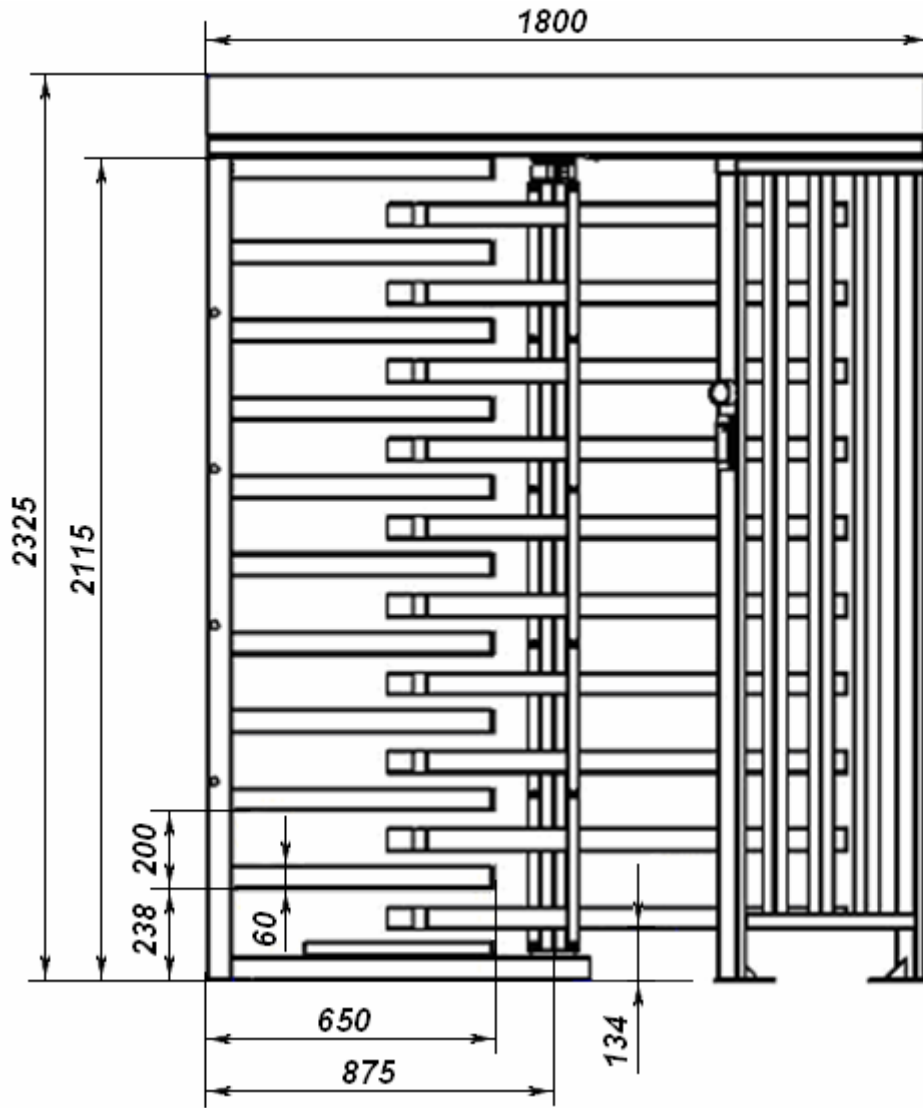
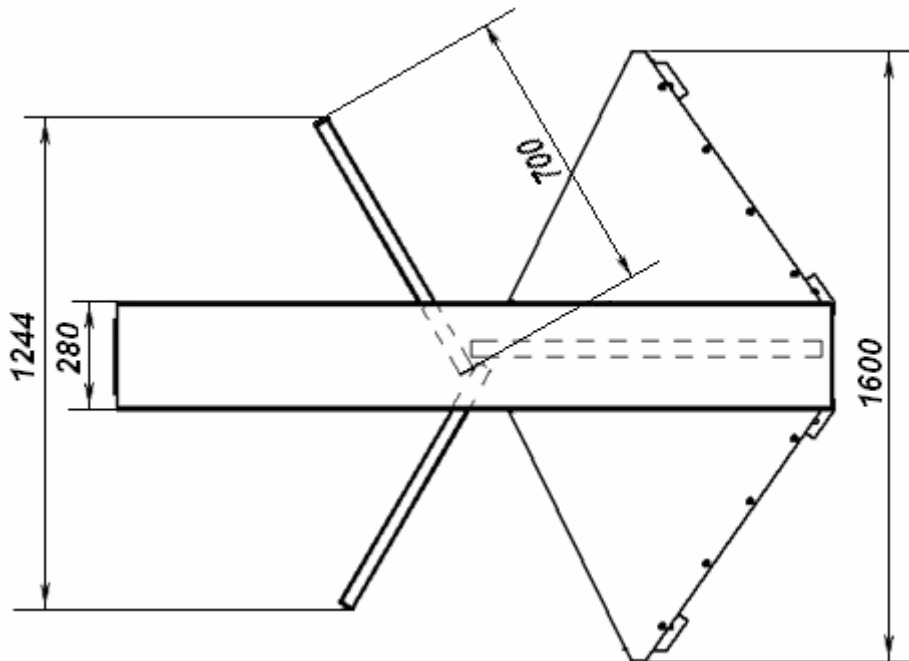
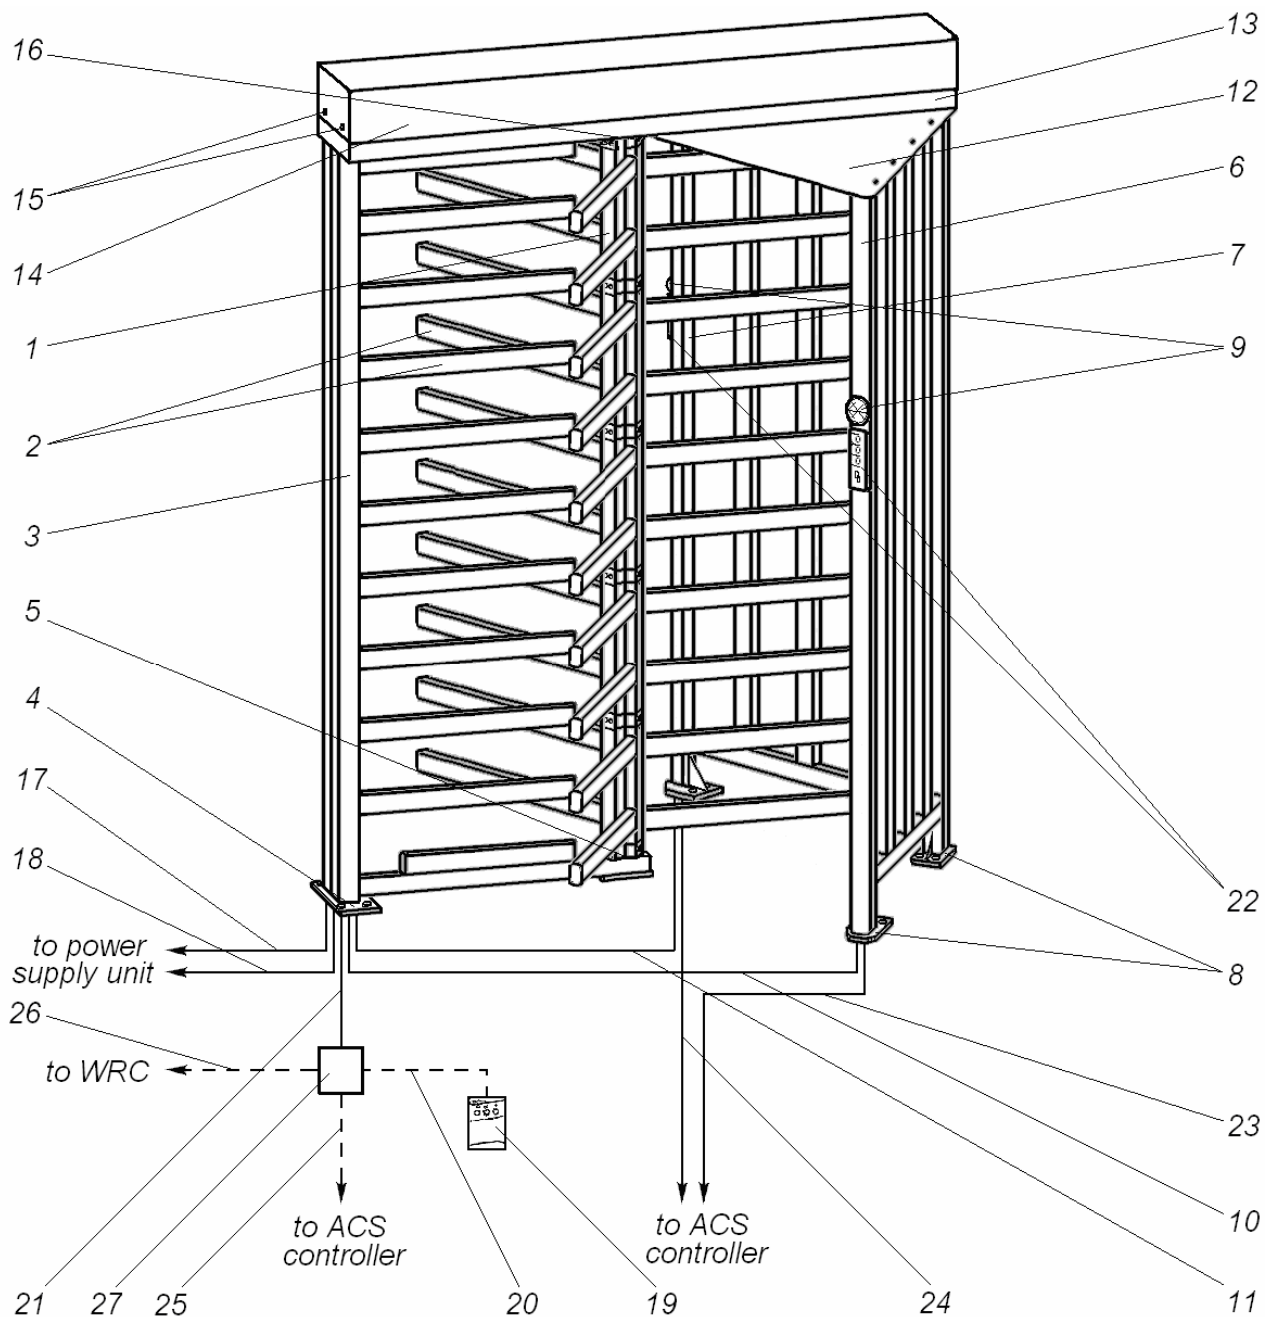
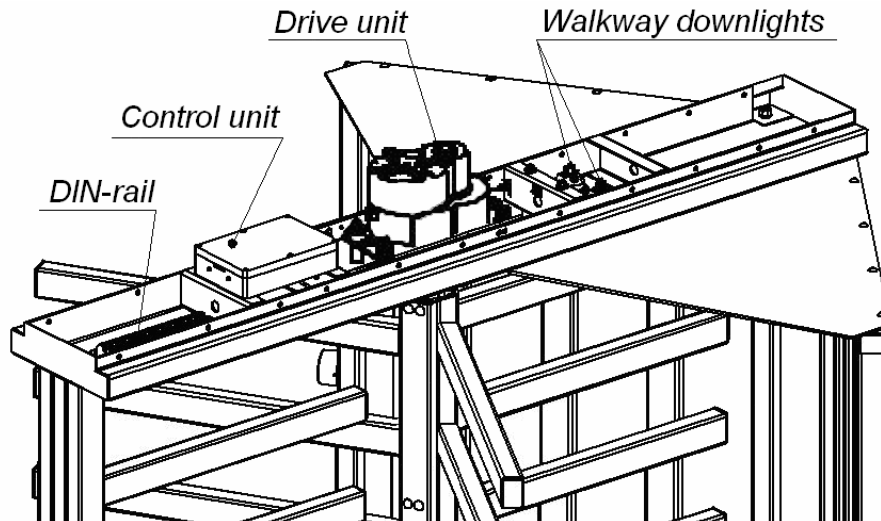

Fig. 1 Overall dimensions (left-side view)
Fig. 2 Overall dimensions (above view)
Fig. 3 Design of the turnstile
Fig. 4 Top channel (13) with cover (14) off RTD-15.1 model
⁵ Overall dimensions shown in Fig.1 and Fig.2
5.2.1 Design of the turnstile is shown in Fig. 3. The numbers of the positions in brackets in this Manual are given according to Fig. 3 except noted otherwise. The overall dimensions are shown in Fig. 1 and 2.
**Note to Figure 3:**
5.2.10 The *control unit* (the CU) is designed as a separate boxed device placed inside the top channel (13). For connection convenience all the CU connectors and terminal blocks are positioned on a DIN-rail also mounted inside the top channel (Fig. 4 and 5). All cables are wired to the DIN-rail through the lower hole in the barrier section (3) from the side of the flange (4), then up the post into the top channel (Fig. 3, 4 and 5).
- **Standard rotor orientation:** Only one barrier wing blocks the passageway in the reset state (Fig. 3 and 11). This access mode allows setting of standard operating modes of the turnstile (Table 1).
5.2.3.3 The turnstile design enables mounting of ACS readers (22) on the supporting posts of the guide barrier sections. The readers' (22) position and the cable ((23) and (24)) layout are shown in Fig. 3. An ACS controller is connected to the turnstile with the ACS controller cable (25), wired to the connector block (27). Operation from an ACS requires installation of a jumper (the "IMPULS" jumper, not factory-installed) on the DIN-rail by means of the wire RTD-15.842.00 from the standard delivery set (Appendix A, Fig. 20). between the "IMPULS" connector 15 and "GND" connector 16.